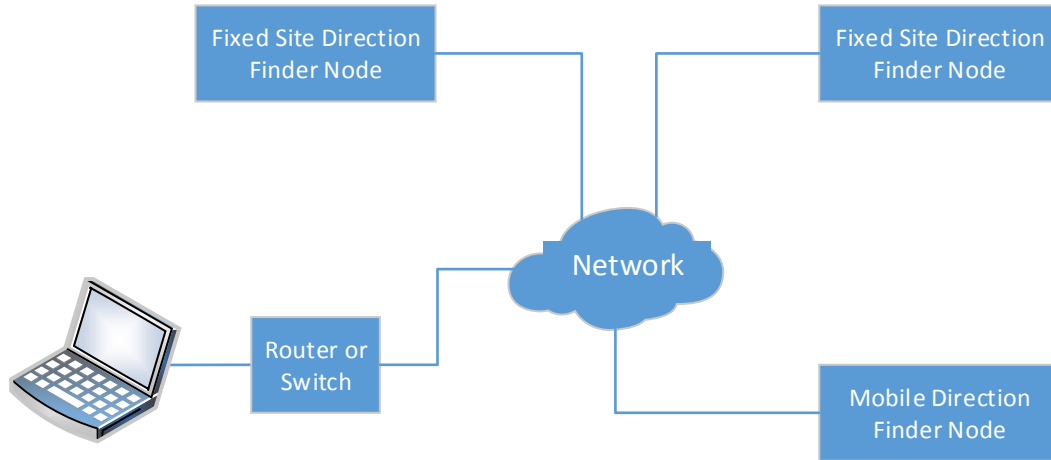
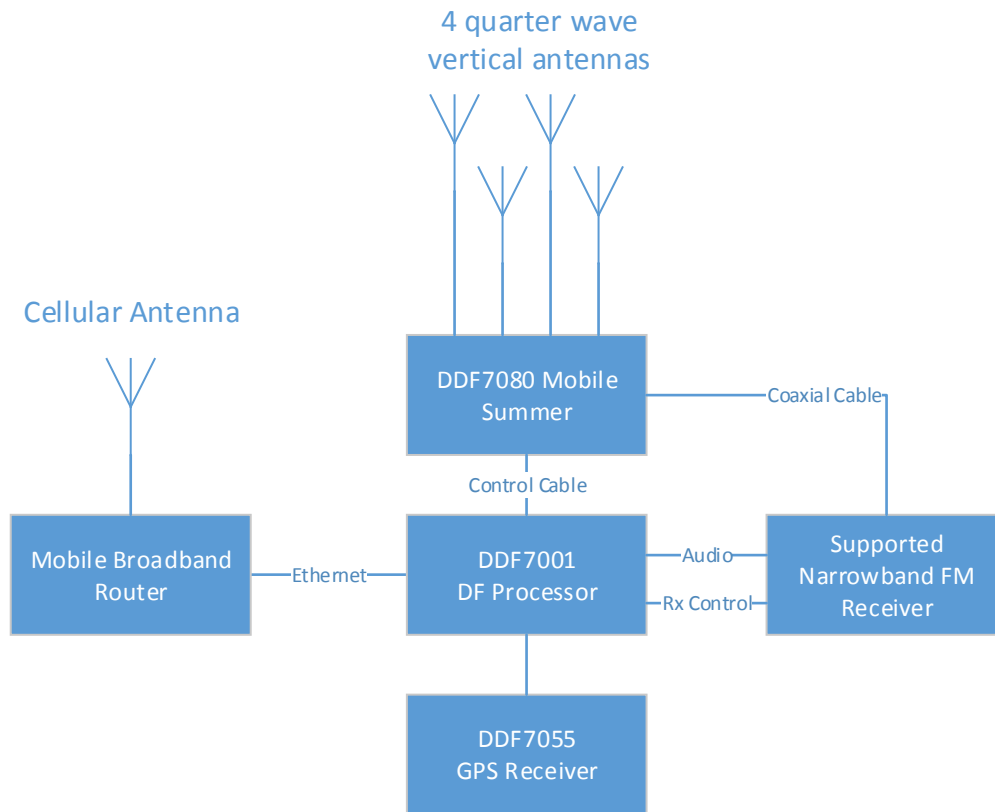
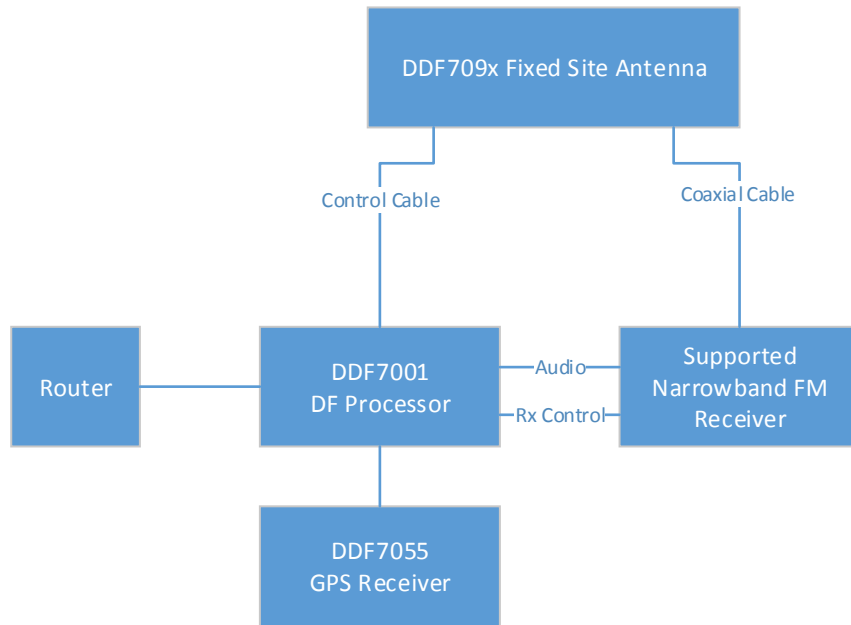

Figure 6: Example Network of Two Fixed Site Direction Finders and One Mobile Direction Finder
Figure 7: Equipment Complement for Networked Mobile Direction Finder Node
Figure 8: Equipment Complement for Networked Fixed Site Direction Finder Node
Any number of mobile and/or fixed site radio direction finders can be networked to provide an instantaneous estimate of a target transmitter's location. Figure 6 provides an example of a networked system. The network can be a local area network (LAN), a wide area network (WAN), the Internet, or a private network. The only requirement is that the network interface supports Internet protocol (IP). The bandwidth requirements are minimal with bearing data transmitted every 0.5 seconds. At least one network connection to the computer must support 16 kbs for audio streaming. Typical equipment complements for a mobile direction finder and fixed site direction finder are shown in Figure 7 and Figure 8. Each DF processor supports up to 10 TCP/IP connections so multiple users can monitor and/or control the network.